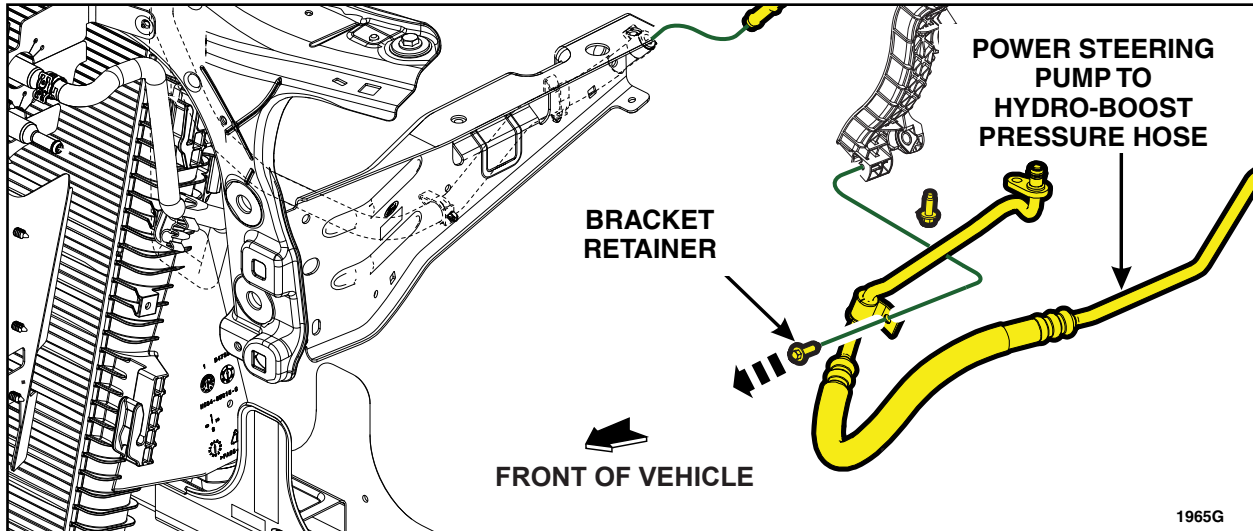

FIGURE 8
1. Remove the power steering pump to Hydro-Boost pressure hose bracket retainer. See Figure 8.